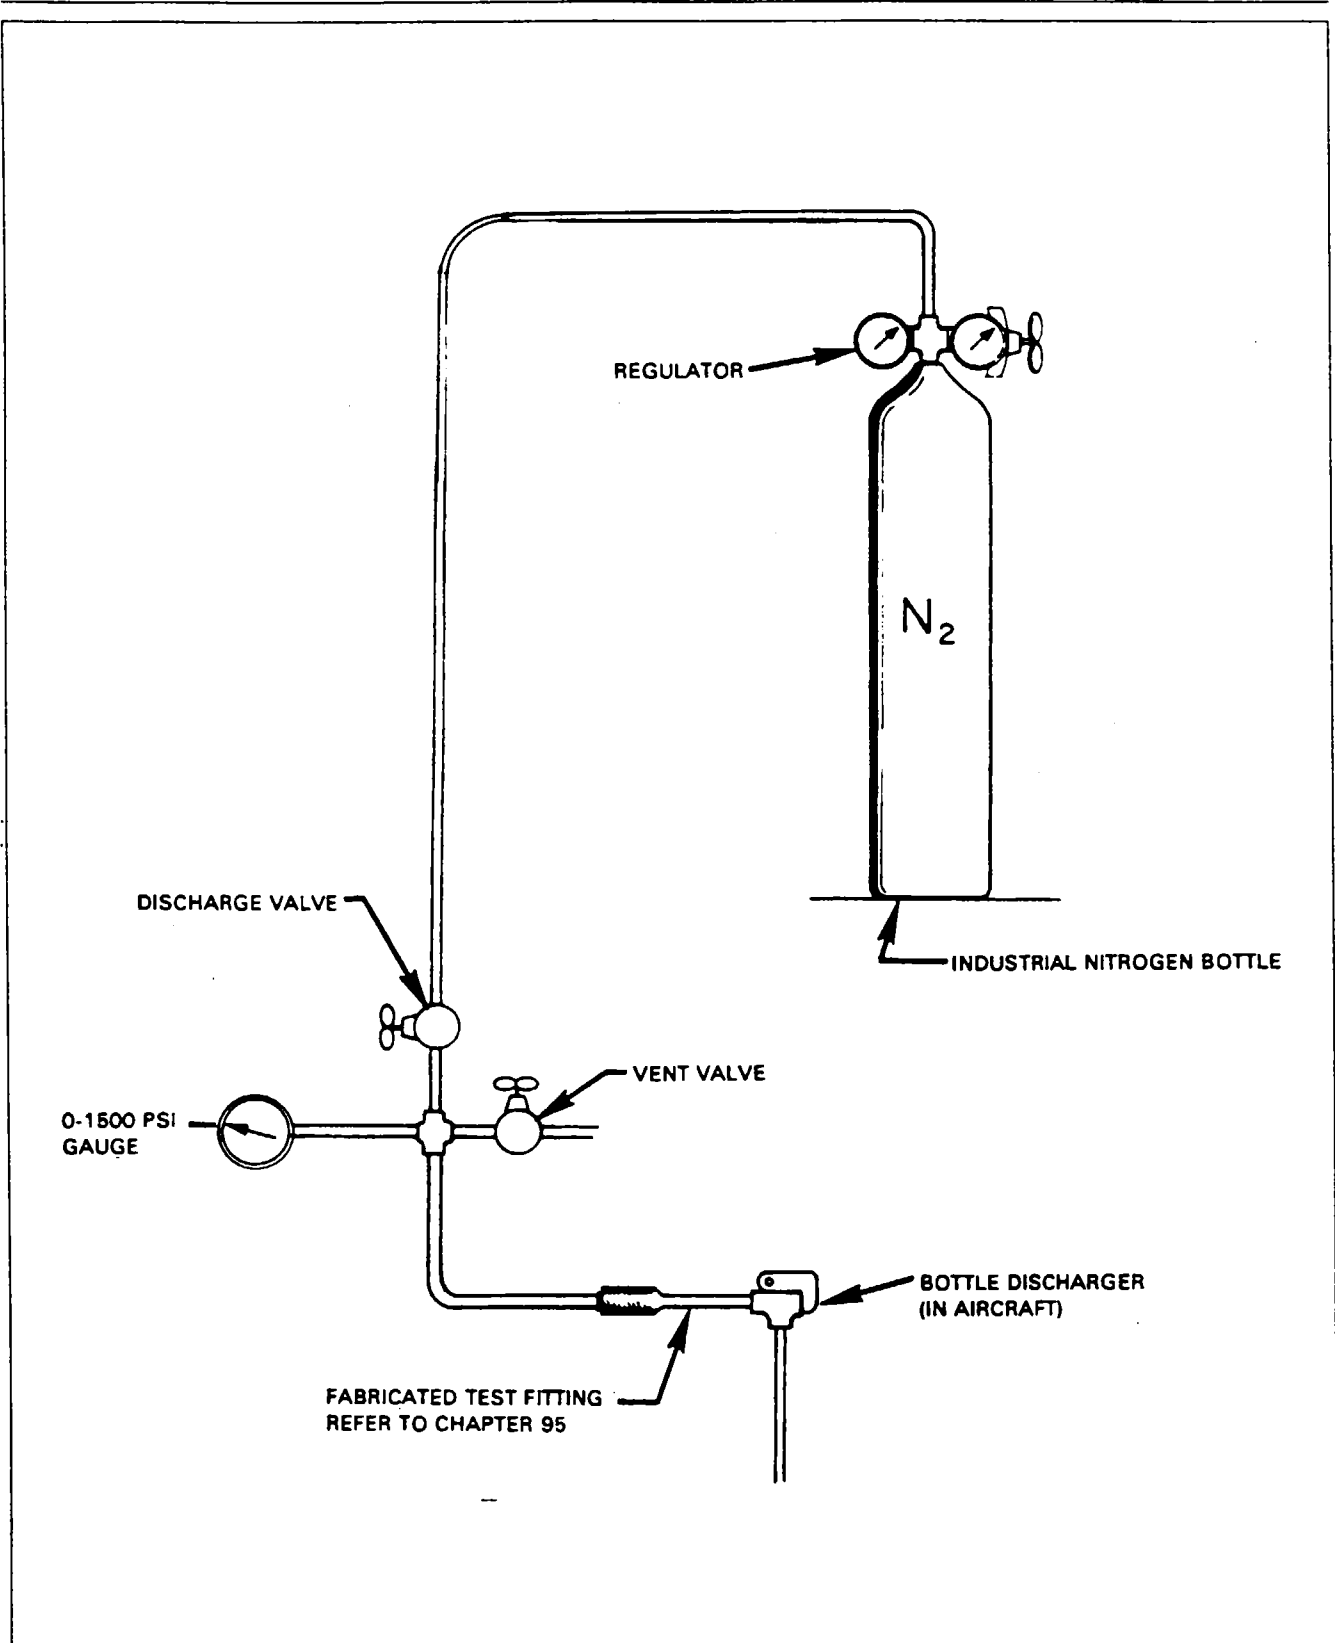

Figure 32-10a. Test Equipment Installation, Emergency Gear Extension System
This test procedure should be used whenever the system has been opened for any service and at each 1000 hour inspection, to insure system operation and integrity. To perform this test a special fitting must be fabricated and installed in place of the gas storage bottles. (Refer to Chapter 95 for details.) Also needed is a source of nitrogen gas such as an industrial 3000 psig. cylinder along with regulator, pressure gauge, control valves and lines. (Refer to Figure 32-10a for suggested hookup and equipment.)
4. Install the fabricated test fitting into one of the open discharger assemblies. Insure that the test valves shown in figure 32-10a are closed.